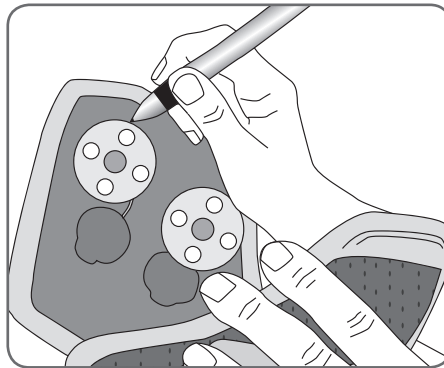

Figure 59: Marking the position of the used L300 electrode bases.
2. Mark the position of the used electrode bases on the FS Cuff liner with a permanent marker. See Figure 59.